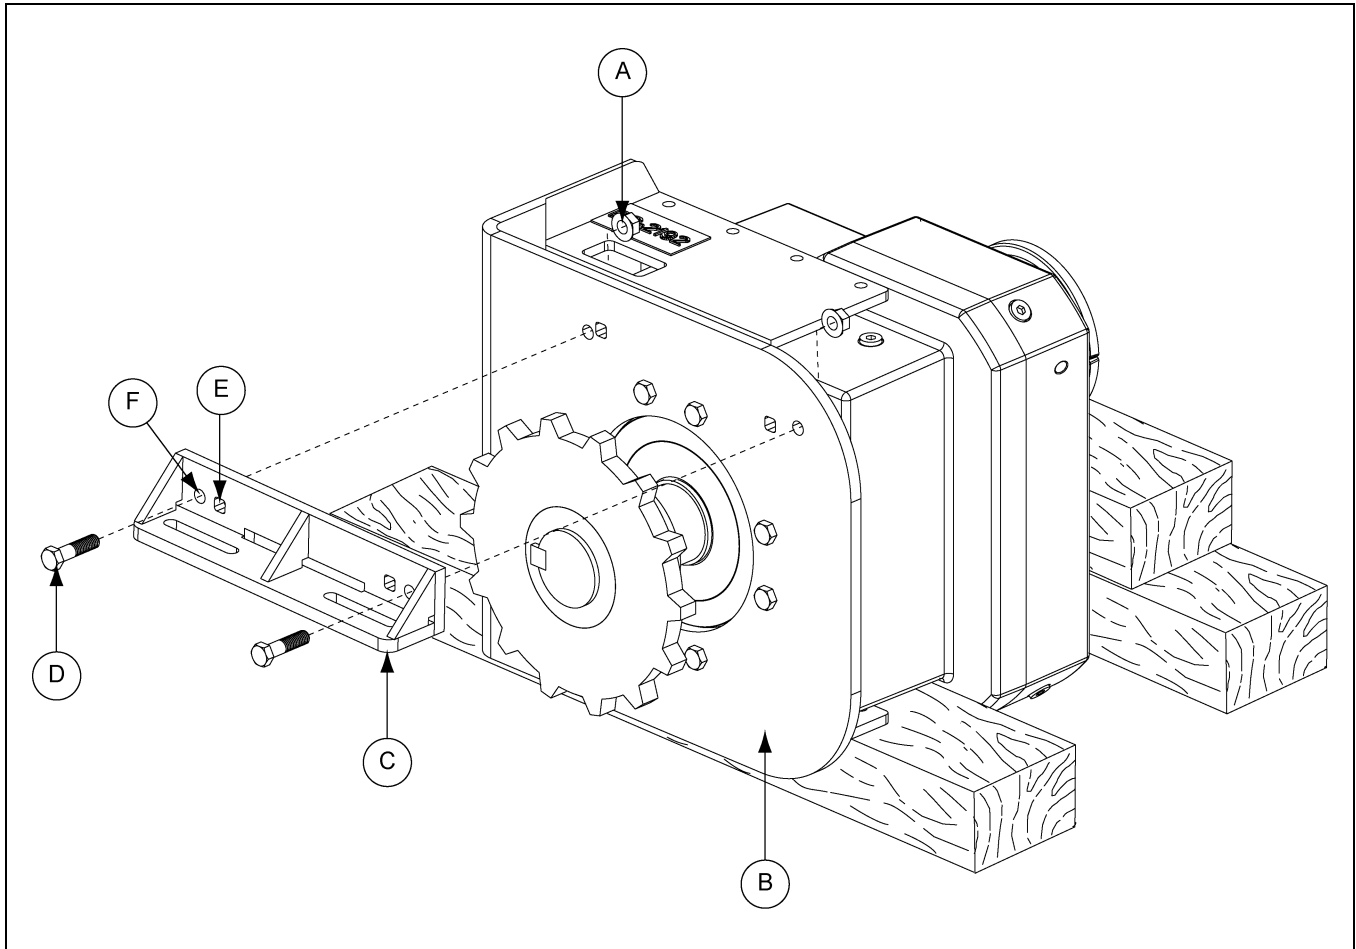

Figure 8E
1. Install the drive keeper mount plate assembly (C) to the track drive plate (B) using hex bolts (D) and flange nuts (A). (See Figure 8E.) **NOTE:** The square holes (E) are used for 8' track radius only and the round holes (F) are used for 18' through 48' track radius.